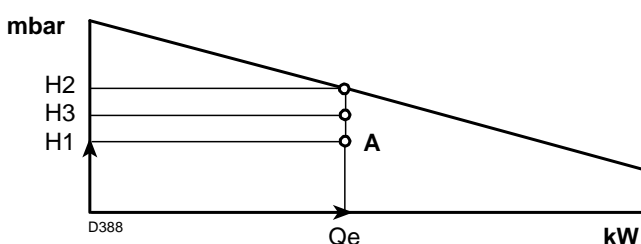

Fig. 37
point A that must remain within the firing rate (Fig. 37).
- 4 - Trace a vertical line from point A, Fig. 37, and find the maximum pressure H2 of the firing rate.
If H3 is greater than H1, as in Fig.37, the burner can produce the delivery requested.